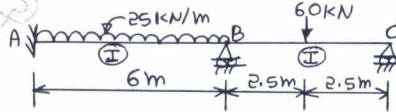

Fig.Q7
- 7 Analyze the continuous beam as shown in Fig.Q7 by flexibility matrix method with system approach and also determine its bending moment diagram.